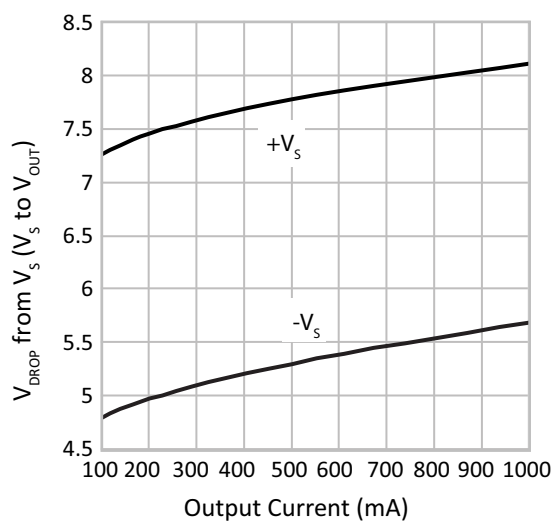

Figure 18: PA164 Small Signal Pulse Response
1. Do not exceed SOA when operating with $|V_B| = |V_S|$. Refer to Figure 4 for SOA, and Figure 18, 19, for Output Voltage Swing.